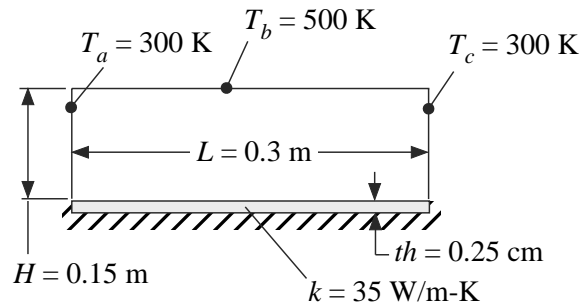

**Figure P10.3-17: Molten metal droplet injection system.**
10.3-17 Droplets of molten metal are injected in a vacuum environment, as shown in Figure P10.3-17.